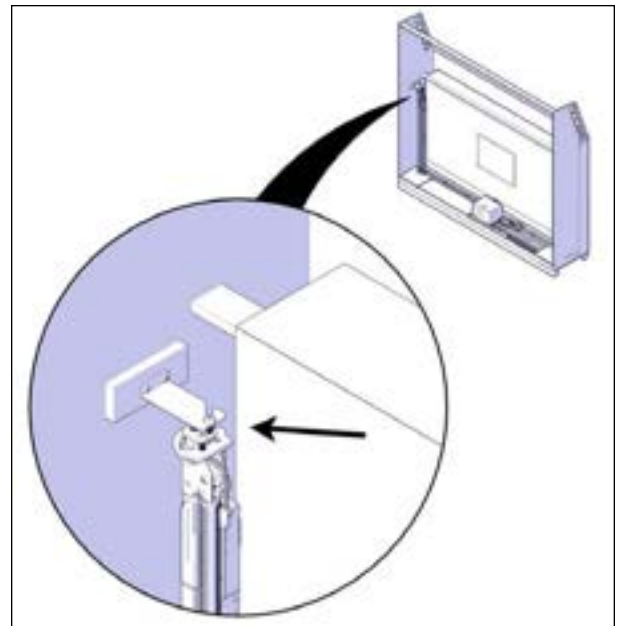

FIGURE 27: LOOSEN TOP SCREW ON JACKS
8. For each jack, use the 7/32" (5.5 mm) Allen key to loosen—but not fully remove—the 3/8" x 1" bolt holding the jack to the top bracket Figure 27. There is one bolt per jack. Do not discard this bolt and bushing; they are required to assemble the cover.